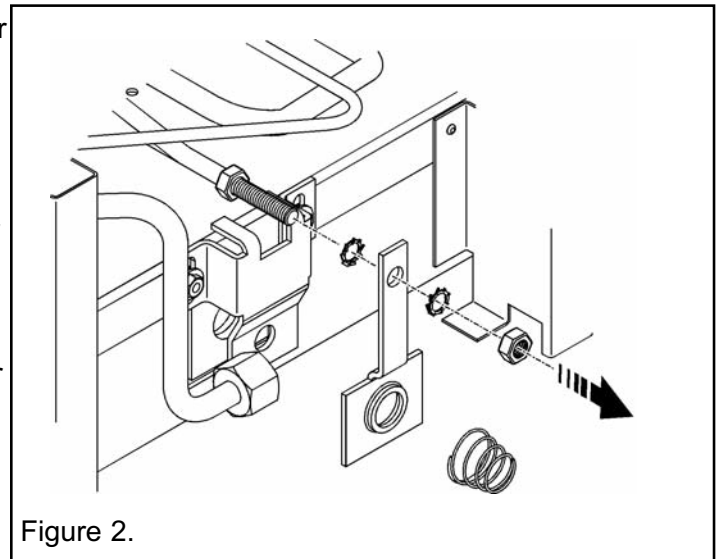

Figure 2.
- c) Withdraw the aeration shutter through the injector support bracket - also shown in figure 2.